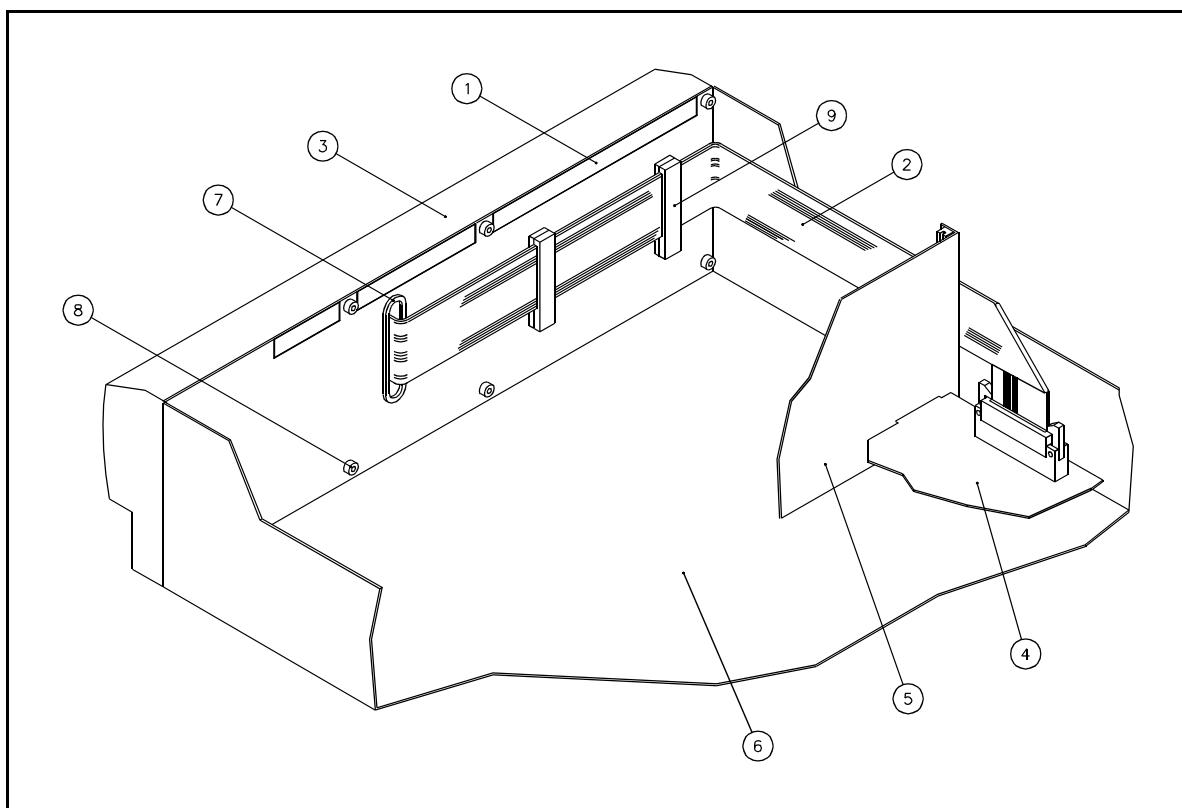

Figure 6.3 Keypad ribbon cable
- Ensure that conductive EMC gasket (figure 6.3 [1]) is intact at front of chassis.
- c) Remove 8 off screws (figure 6.3[8]) which fix the fascia to the chassis. Access to the bottom four screws may be gained via the slots in the underside of the chassis [14] using a 'ball-end' hexagon key.
- d) Lift fascia directly away from chassis to clear flow tube bottom end-blocks [7,8]. Disconnect keypad ribbon cable (figure 6.3[2]) from the Keypad PCB connector [45]. The fascia may now be lifted away from the chassis. Whilst working on the fascia lay it on a soft surface to prevent damage.
Refer to figure 6.3